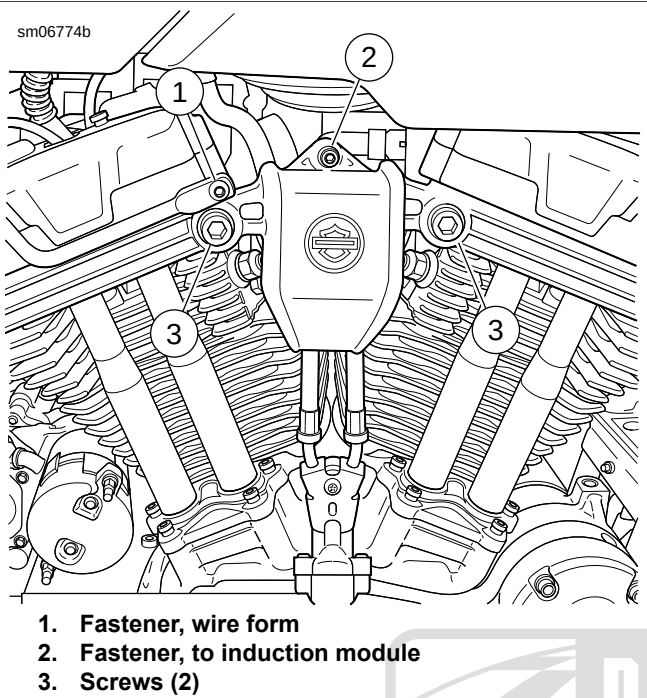

Figure 4-60. Induction Module Cover: XR 1200X
See Figure 4-60. The TMAP sensor harness and TPS harness are attached to inside of induction module cover. It is not necessary to remove the retainer securing these harnesses to the induction module cover in order to access TMAP sensor.
- 5. See Figure 4-60. Install the induction module cover.
- d. Tighten socket head screws (3) to 20-24 ft-lbs (27.1-32.5 Nm).
- e. Tighten fastener (2) to 84-108 in-lbs (9.5-12.2 Nm).
- f. Tighten fastener (1) to 84-108 in-lbs (9.5-12.2 Nm).